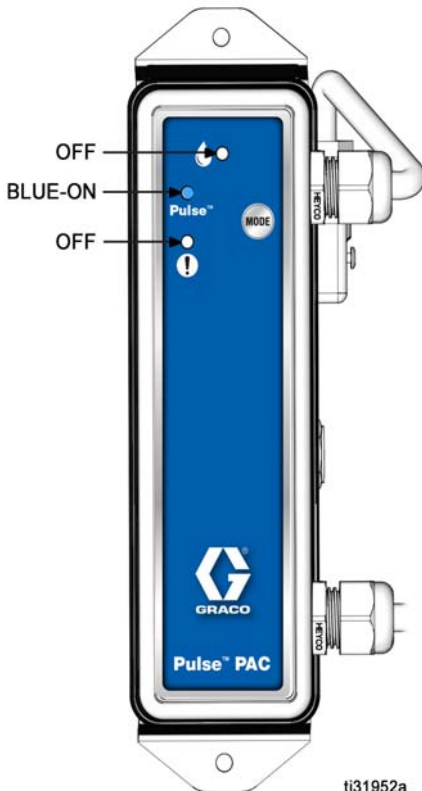
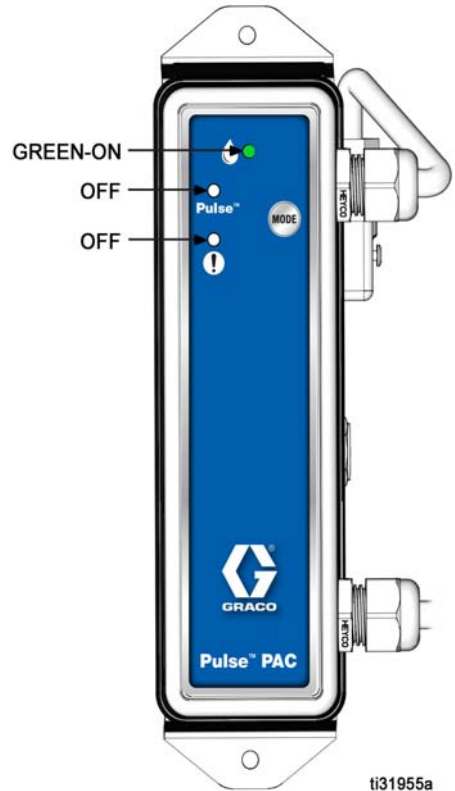
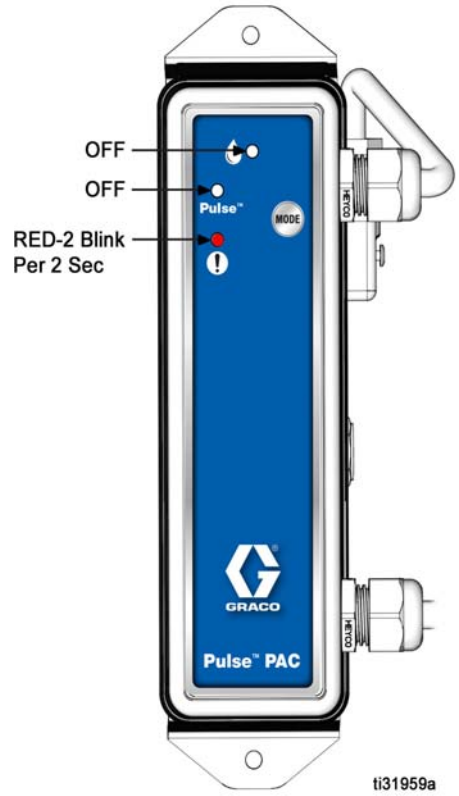

FIG. 16
FIG. 19
FIG. 23
- In the Pulse (preferred) (FIG. 16) mode, the pump will not operate unless it receives authorization from the Pulse software.
- The Work Off Line mode (FIG. 19) turns on air to the pump so the pump can be energized without an authorization through Pulse.
**NOTE:** See **Pulse Mode, No Errors** (FIG. 16, page 12) and **Work Off Line Mode, No Errors**, FIG. 19, page 13).
LEDs on the PAC illuminate and/or flash to report the status or error code of the PAC. Refer to FIG. 16 - FIG. 23 to determine the PAC status.